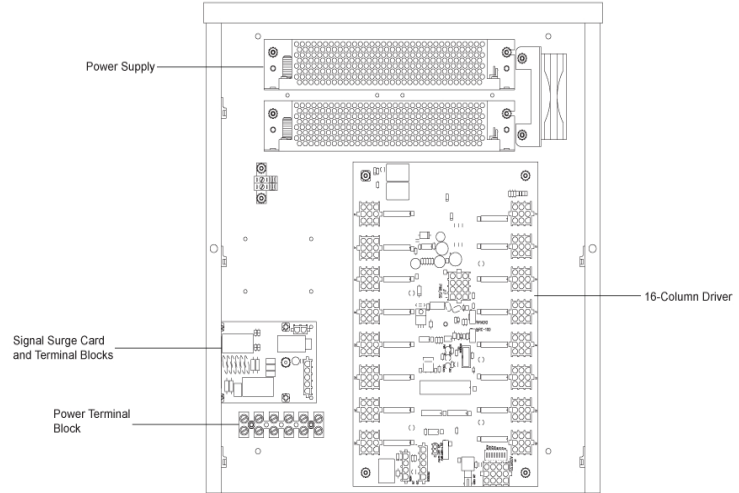

Figure 14: 16-Column Driver Enclosure
4. Remove the screws, nuts, or wing nuts securing the driver to the inside of the enclosure. Refer to **Figure 14**.